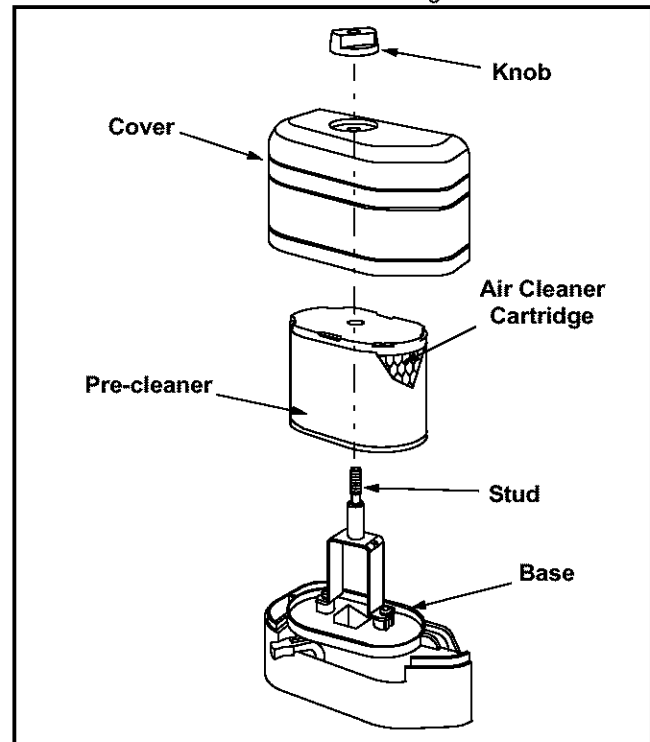

Figure 14
- Remove knob and cover. See Figure 14.